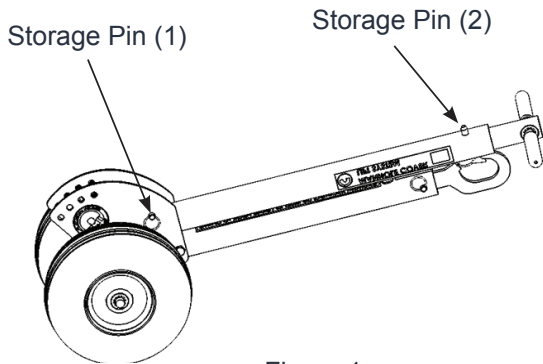

Figure 1
1. Unfold unit by pulling out Storage Pin (1) closest to the wheel and unfold the dolly. Replace the pin in any of the four alternate hole positions. Be sure coworkers and other equipment are clear of the area while unfolding the dolly. Refer to Figure 1.
3. Remove Storage Pin (2) on the handle and extend the handle to any of the three holes and replace the pin. The third hole position (longest handle) will provide the maximum leverage when lifting the manhole cover. Refer to Figure 1.